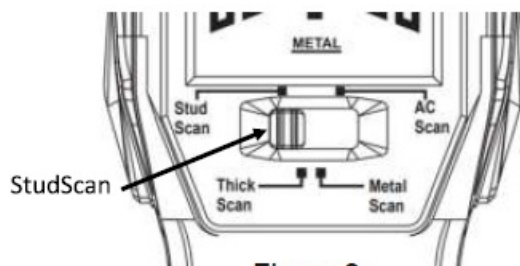
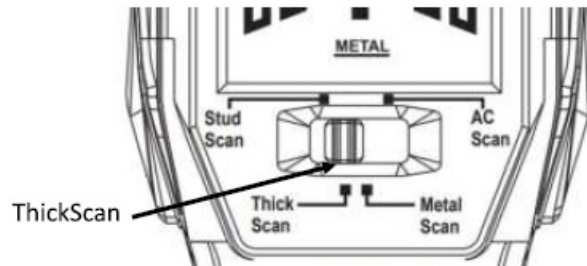

Figure 3
Figure 4
2. Selecting the detection mode: move switch to left for StudScan (Figure 3) and right for ThickScan (Figure 4).